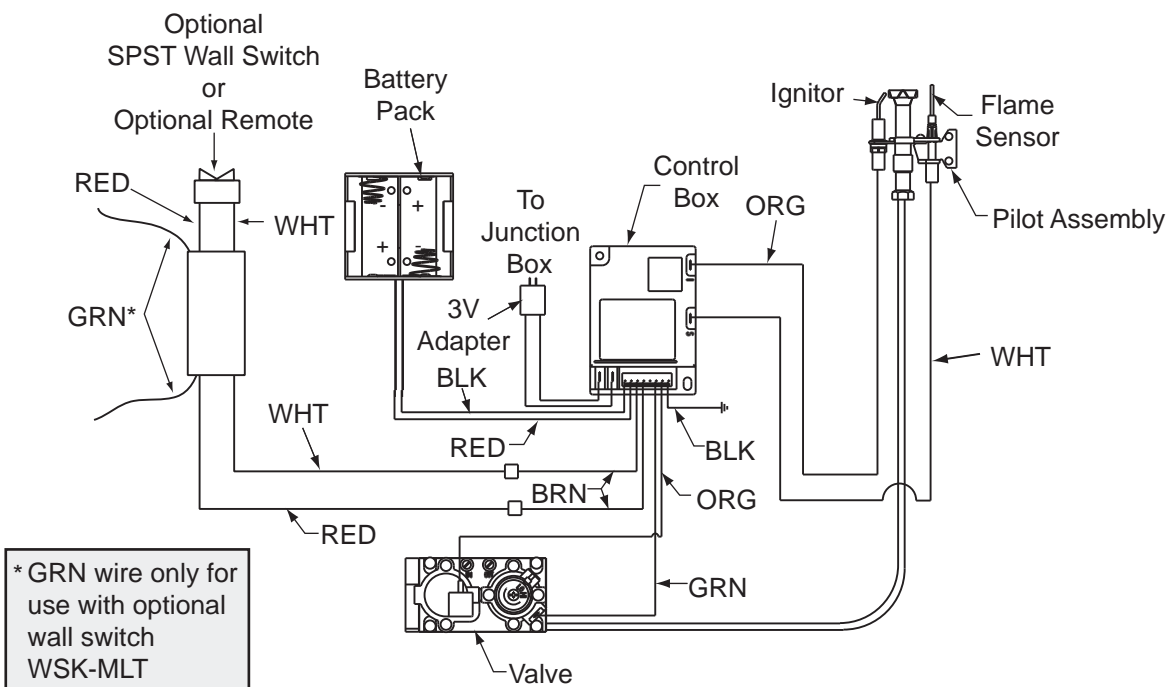

Figure 12.3 Intellifire Pilot Ignition (IPI) Wiring Diagram
- Refer to Figure 12.3, Intellifire Pilot Ignition (IPI) Wiring Diagram.